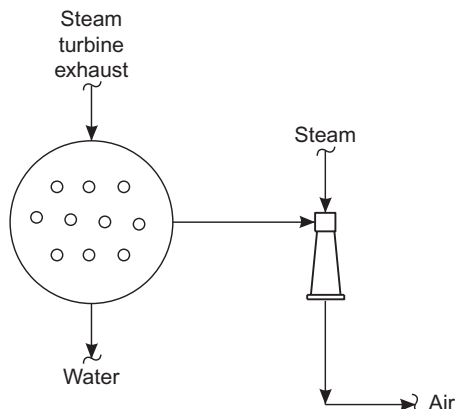

FIG. 27.2 Condensing steam turbine.
- Second, to achieve a good vacuum, air leaks and residual noncondensable gasses such as CO₂, need to be extracted from the exhaust steam condenser with an ejector system (see Fig. 27.2).